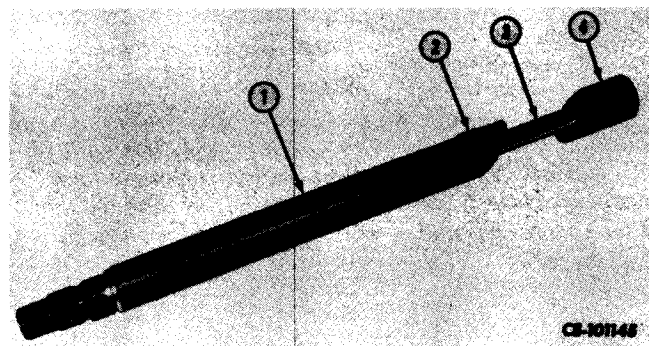
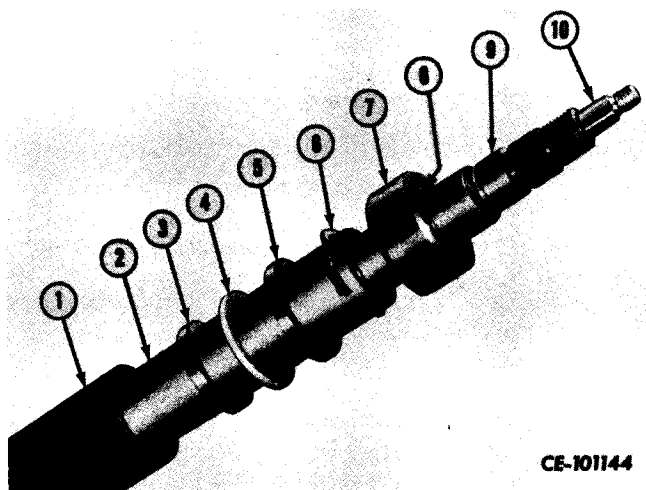

Figure 8-21
Figure 8-20
With dust cover removed continue to drive intermediate shaft up until bearing adapter sleeve (7, Fig. 8-20) clears column jacket. Slide bearing and adapter sleeve assembly from inner shaft (9).
Remove retainer spring (6, Fig. 8-20) from slot in outer shaft (2). Pull outer shaft assembly from lower end of column jacket.
If any or all of the stop rings (5, 3, Fig. 8-20) or slip ring (4) failed to eject with outer shaft (2) as bearing and sleeve assembly (7, 8) were removed, they may now be driven from column jacket. Use a brass rod or hardwood dowel of suitable length and diameter as a drift.
Pull inner shaft (9, Fig. 8-20) and adjuster bolt (10) assembly from outer shaft (2). Do not loose dowel pin (2, Fig. 8-21). Pull adjuster bolt (3) and nut (4) assembly from inner shaft (1). Adjuster nut and bolt may be separated if replacement is required.
Assemble adjuster bolt (3, Fig. 8-21) and nut (4) and install in inner shaft (1). Retain dowel pin (2) in its recess with a small amount of grease. Align dowel pin with groove in inner bore of outer shaft (2, Fig. 8-20) and install adjuster and inner shaft assembly in outer shaft.
Grease both faces of the slip ring (4, Fig. 8-20). Install lower stop ring (3) in bore of column jacket (1) flush against inner shoulder. Install greased slip ring (4) followed by upper stop ring.
Install inner and outer shaft assemblies (2, 9, Fig. 8-20) in jacket (1). Install retainer spring in groove on end of outer shaft. Install bearing (8) and adapter sleeve (7) assembly on inner shaft (9). Using a suitable sleeve drive adapter (7) down into jacket (1) until flush with end.